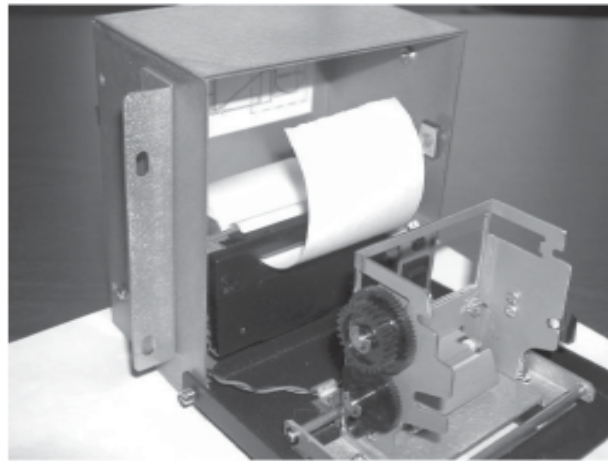

Figure 8-3. Paper Guide
8. Guide paper between paper guide rod #1 and plastic window until it exits at top paper guide rod #2. Make sure paper goes around this guide correctly. Refer to Figure 8.3.
2. While grasping take-up spindle and paper, push take-up release slightly to right until spindle is free. Refer to Figure 8-3 for take-up release position,